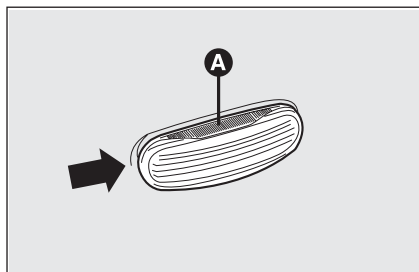
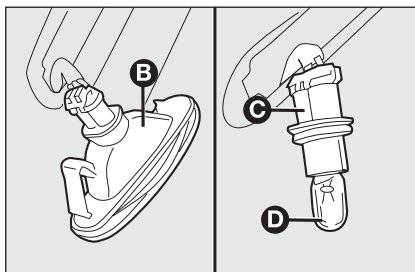

fig. 26
fig. 27
- ☐ push the lens **A-fig. 26** to compress the internal catch **B-fig. 27**. Then, pull the unit outwards;